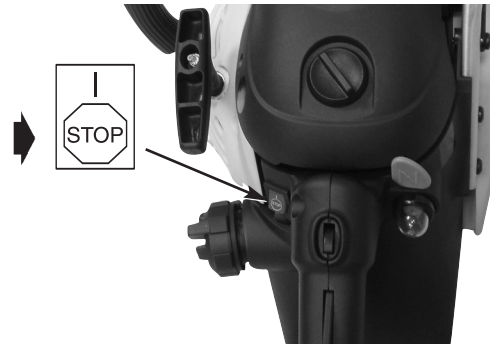

Fig. 13
2. Press STOP switch down to stop engine Fig. 13.